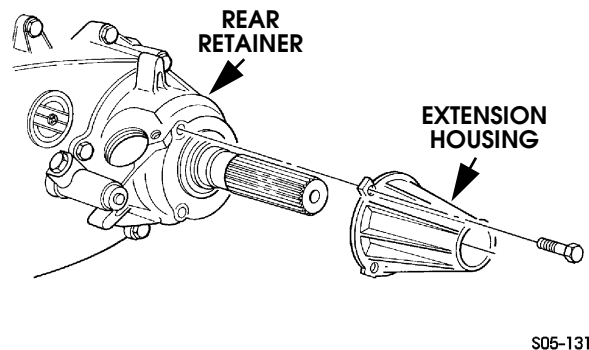

Figure 5-166: Extension Housing Installation
- 41. Align and install extension housing on rear retainer (Figure 5-166). Install and tighten housing bolts to 20-25 lb-ft (27-34 N•m).